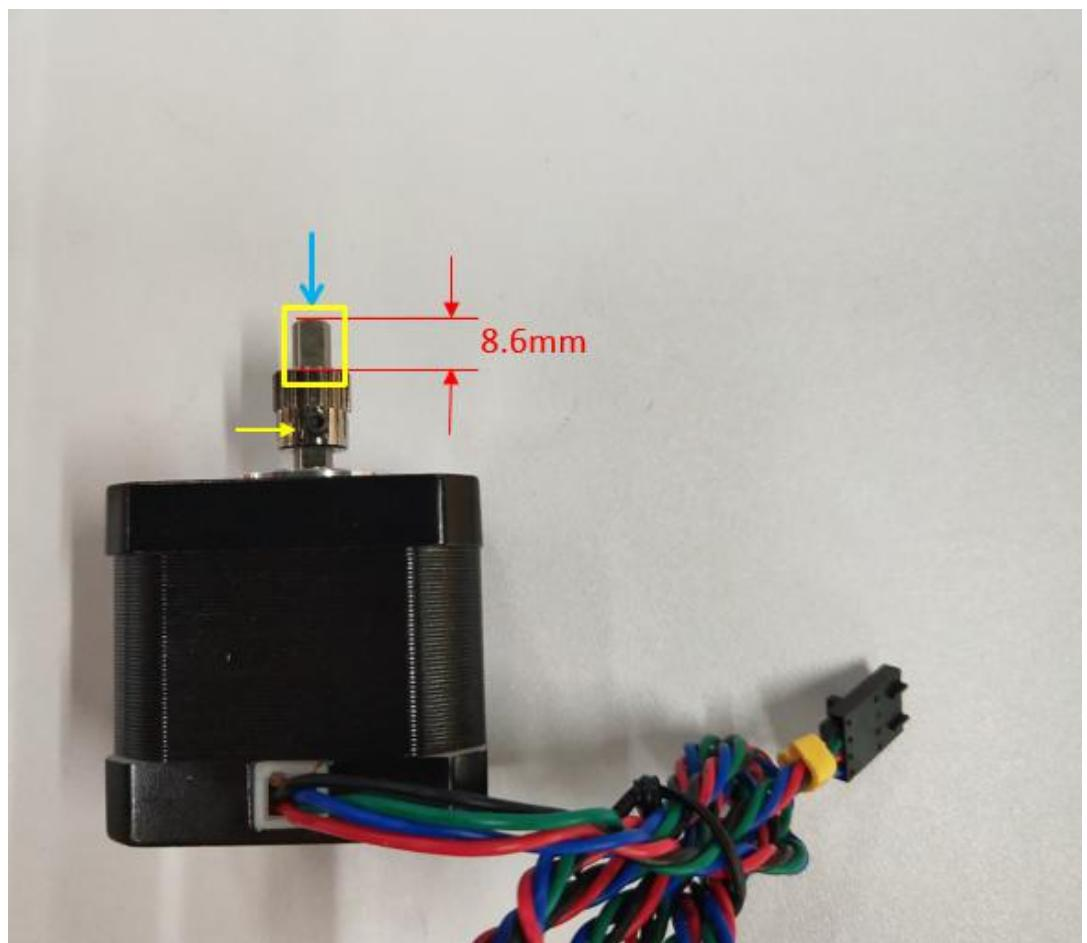

Figure 2.1.4
**Step 2-1-4:** As shown in Figure 2.1.4, install the extruded gear with set screw on the motor shaft, and the end face of the motor shaft is 8.6mm away from the end face of the gear. **Note that the plane part of the motor shaft must face the screw part of the gear belt set screw**, And then uses M3 × 4 set screw to lock the gear and motor shaft.